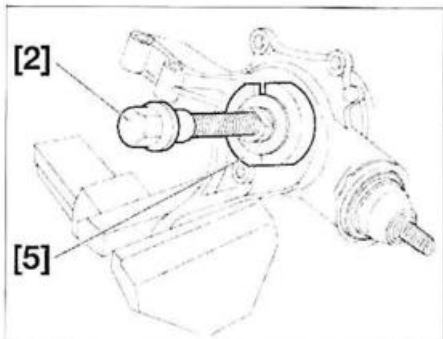

FIG. 19
- Colocar los útiles [5] (extractor ref. 9501-T.D4+9501-T.D5) y [2] (tornillo ref. 9501-T.A.) (fig. 19).